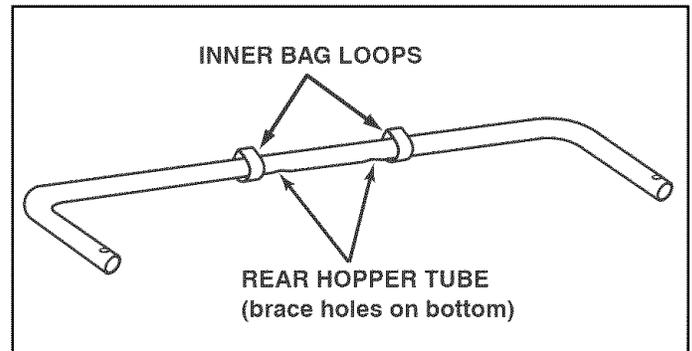

FIGURE 13
STEP 10: (SEE FIGURE 13 AND 14)